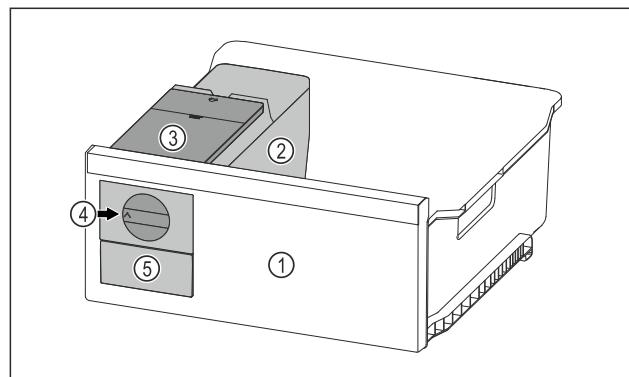

Fig. 78 Example illustration
► Turn the rotary knob Fig. 78 (4) clockwise as far as it will go.
► Ice cubes fall from the ice cube tray into the ice cube drawer Fig. 78 (5).